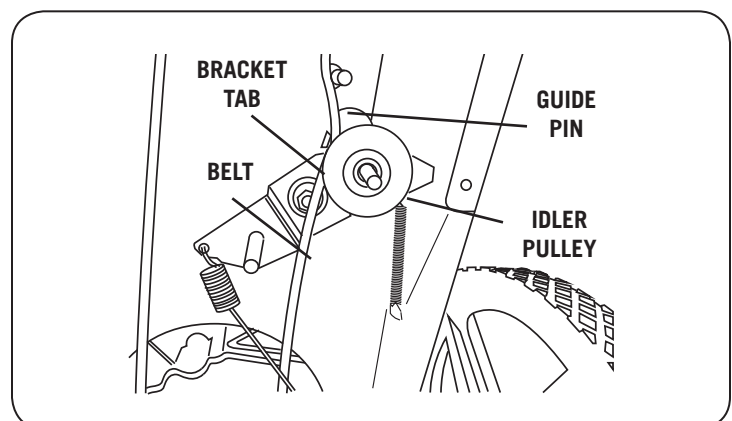

Figure 18
8. Install the small spacer and flat idler pulley (see Figure 18). Make sure you place the belt correctly between the idler pulley, bracket tab, and guide pin.
Cutting head won't spin or lacks power.	<ul style="list-style-type: none"> <li>• Check for proper alignment of the v-belt. Check it against Figure 18 in the "Replacing the Belt" section on page 20.</li> <li>• The belt may be worn or frayed; if so, replace it.</li> <li>• If the cutting head still will not spin, follow the procedure for "Adjusting the Belt Tension through the Cutting head Control Cable" on page 19.</li> <li>• If none of the above helps, visit our web site at <a href="http://www.dirtyhandtools.com">www.dirtyhandtools.com</a> or call 1-877-487-8275 for assistance.</li> </ul>
Cutting head keeps spinning or spins when you release the safety bar.	<ul style="list-style-type: none"> <li>• Check for proper alignment of the v-belt. Check it against Figure 18 in the “Replacing the Belt” section on page 20.</li> <li>• If the cutting head keeps spinning when you release the safety bar, see “Adjusting the Belt Tension through the Cutting Head Control Cable” on page 19.</li> <li>• If none of the above helps, visit our web site at <a href="http://www.dirtyhandtools.com">www.dirtyhandtools.com</a> or call 1-877-487-8275 for assistance.</li> </ul>